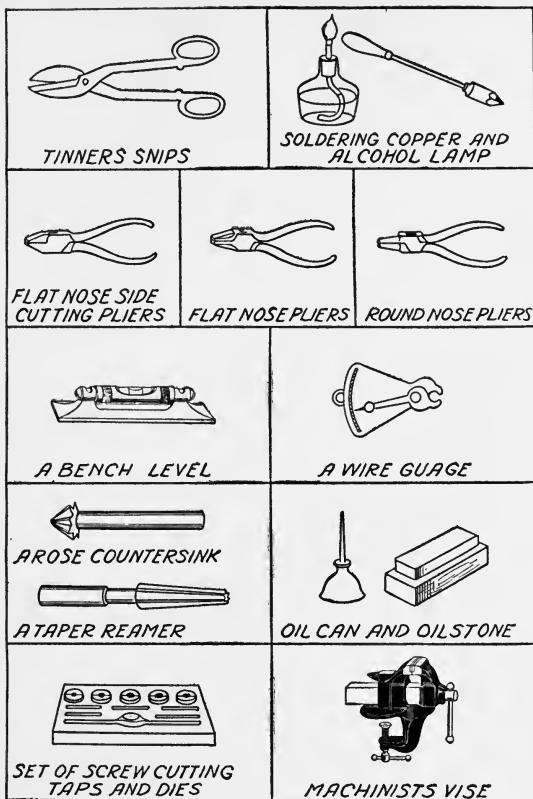

FIG. 27. THE CHIEF METAL WORKING TOOLS
round in shape and the *smooth* and *second cut* will be the most useful; (16) several screw drivers, small and large; (17) a soldering copper that weighs about  $\frac{1}{2}$  a pound; (18) a can of soldering paste, or you can make a soldering fluid yourself, and (19) an alcohol lamp, which I told you how to make in the last chapter, or a Bunsen burner if you have a supply of gas, and (20) a machinist's vise. All of these tools are shown in Figs. 27 and 28.
**Some Hints on Using the Tools.**—(1) When you want to rivet something use the ball pein end of the hammer to pound down the end of the rivet as this will spread it out in every direction evenly and you can make it nice and round. (2) Side cutting pliers are useful to hold and bend bits of metal with and to cut off pieces of wire as well. (3) Tinner's snips are simply large powerful shears and you can cut sheet metal up to  $\frac{3}{32}$  of an inch thick with an ordinary pair. When you cut a sheet of heavy metal with them let the lower blade and handle rest on your bench and you can get a better leverage on it. Metals that are thicker than  $\frac{3}{32}$  inch must be sawed.
(4) While metals can be sawed by using a special saw blade in a scroll saw frame you should use a jeweler's saw frame with jeweler's saws for metal—I prefer the *Fish Brand* for fine work. (5) For heavier work use a machinist's hack saw; put the piece of metal in a vise and have the part you want to saw close to the jaws of the vise so that it will not vibrate; use a little pressure on the outward, or cutting stroke,